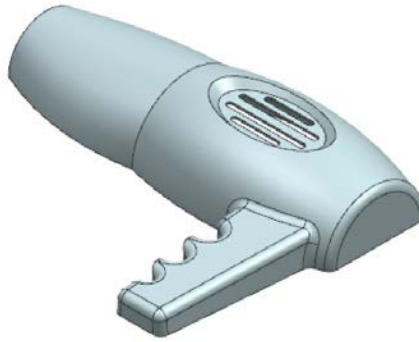

Figure 11-116 Final model
3. Choose the **OK** button from the dialog box. The final model after applying the thickness is shown in Figure 11-116.